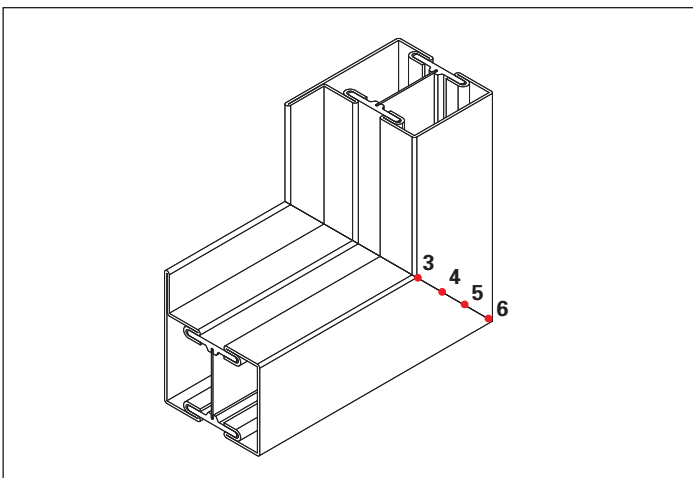

Fig. 82 Tack the smaller surface every 20 to 30 mm (3-6)
4. Tack the visible surfaces (Fig. 82 to 87)